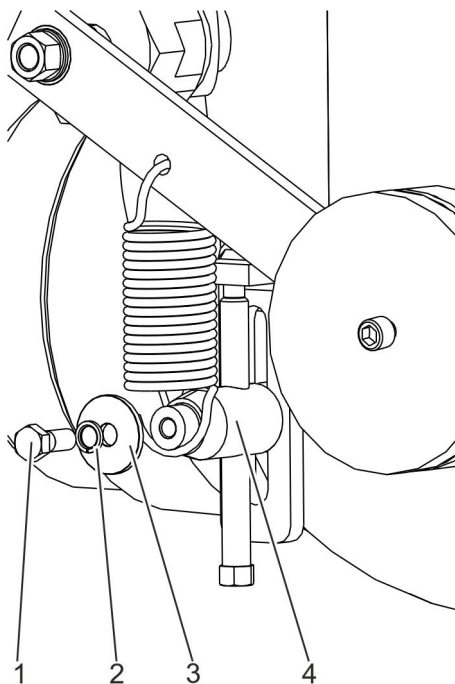

Fig. 39: Removing the bolt
4. ➔ Remove bolt (Fig. 39/1) together with lock washer (Fig. 39/2) and washer (Fig. 39/3).
5. ➔ Carefully pull the spring off the retaining pin (Fig. 39/4).